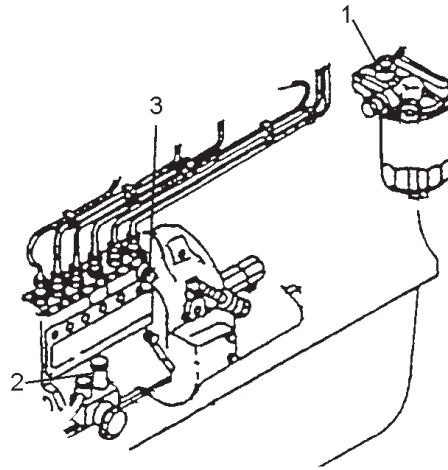

Figure 10 Fuel Feed Pump
- a. Loosen the air vent plug (#1 on Figure 10) on the fuel filter by about 1-1/2 turns. (Be sure to cover the vent with a cloth to prevent fuel from splashing.)
- b. Turn the priming pump cap on the fuel feed pump counterclockwise to unlatch it. Move the priming pump plunger (#2 on Figure 10) up and down. To close the pump turn the cap clockwise while depressing it.
- a. Turn the air vent plug (#3 on Figure 10) about 1-1/2 turns to loosen it. (Cover the vent with a cloth to prevent fuel from splashing.)